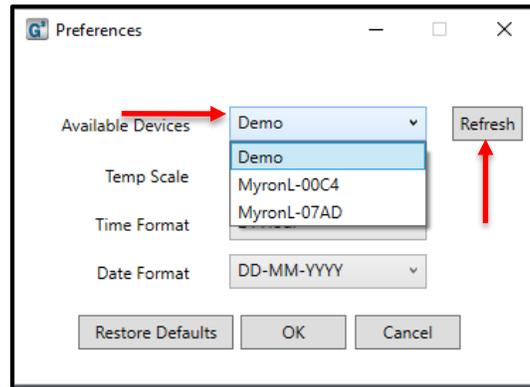

Figure 22
2) Select the **"Available Devices"** drop down menu (Figure 22).